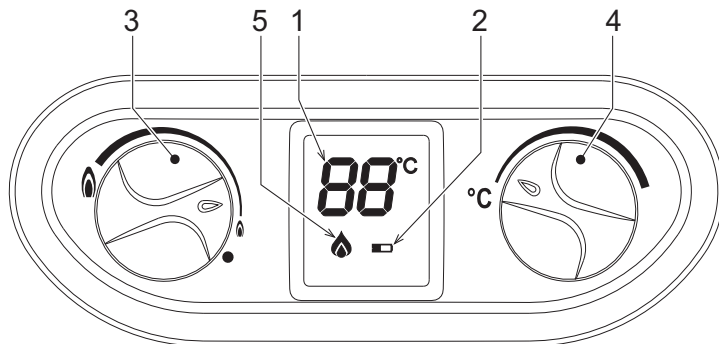

fig. 1 - Control panel
Panel legend fig. 1
Use the power adjustment knob (ref. 3 - fig. 1) to select the water heater power, minimum or maximum and intermediate positions depending on the required water heating level. Turn the knob anticlockwise and the unit heats the water at maximum power. If the temperature is too high, for example in the summer, or when a reduced flow of not very hot water is necessary, turn the knob clockwise. This reduces the power (and gas consumption). In the position the unit is deactivated.